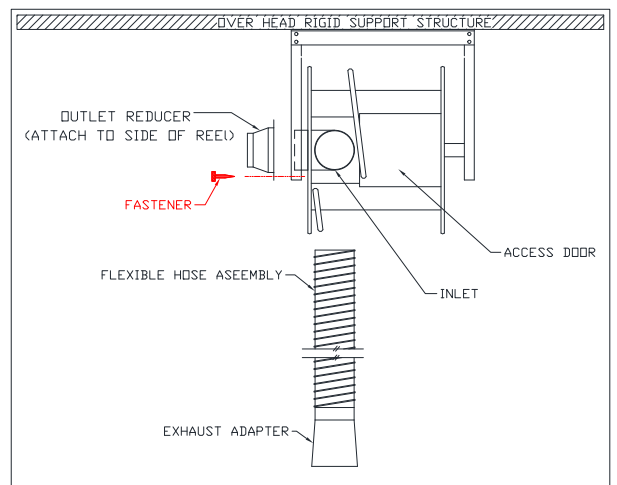

**FIG1-OPTIONAL MOUNTING CONFIGURATIONS**
1. Several mounting options are possible (See FIG1). Regardless of which orientation, the axis of the hose reel drum must be parallel to floor. Ceiling mounted configuration is mandatory for hose reels with direct mounted exhaust fans (See FIG2). Contact factory for wall mounted reels with integral exhaust fan.